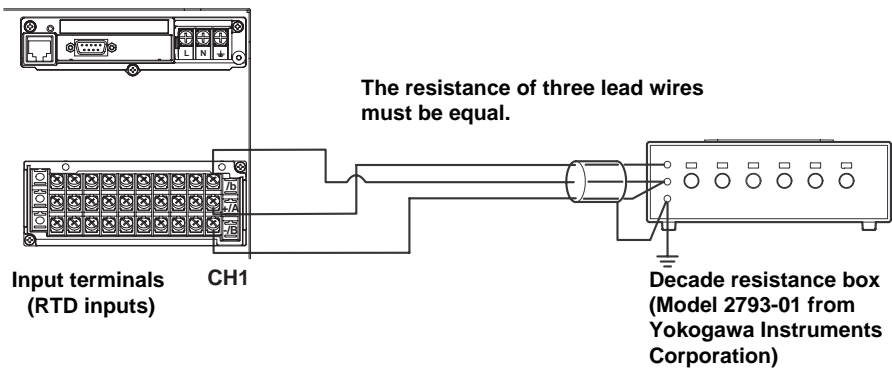

Figure 2.1 Connection diagram
- 1 Connect the equipment as shown in figure 2.1.